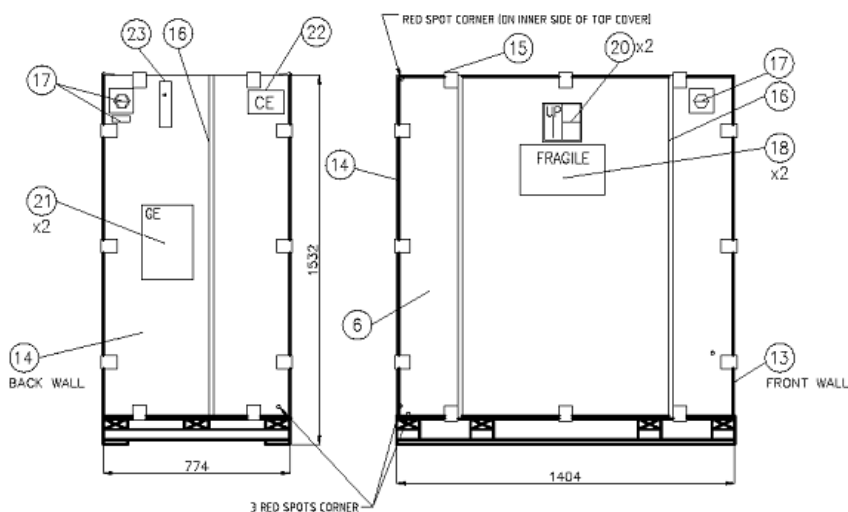

Figure 3-1 Vivid™ 4 - Wooden Shipping Crate
- 1) Locate and remove the clip remover tool (item 23) that is secured on the outside of the wooden crate, as shown in Figure 3-1, above.
Note: Unless otherwise specified, referenced items are shown in Figure 3-1 on page 3-4.